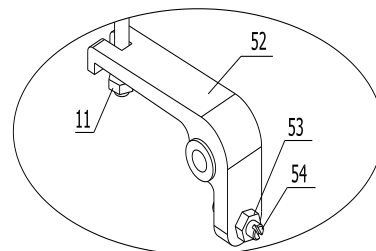

Fig. 4
- 3.5 Put the Screw and nut at the end of chain 10 into the slot of the lever plate 52. Please refer to Fig.2 and Fig.4.
4.2 The screw 53 in fig 4 is used to adjust the truck situation. When the truck body drops immediately after it is lifted, you should turn the screw 53 a little counter-clockwise. And then try the truck again until truck body could lift normally. If the truck body couldn't drop after it is lifted, you should turn the screw 53 a little clockwise. And then try to operate truck again until the truck body could drop normally. The external hexagon nut 54 at screw 53 plays the locking function in the truck. So you should undo the external hexagon nut before adjustment. And screw down the nut after you finish the adjustment.